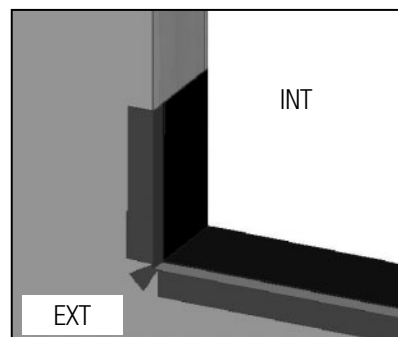

FIG. 7
- F) Flashing tape must cover the entire sill. If needed, apply an additional flashing piece over the first one (start from the exterior and work toward the interior). Maintain a minimum 1" overlap. (Fig. 7)